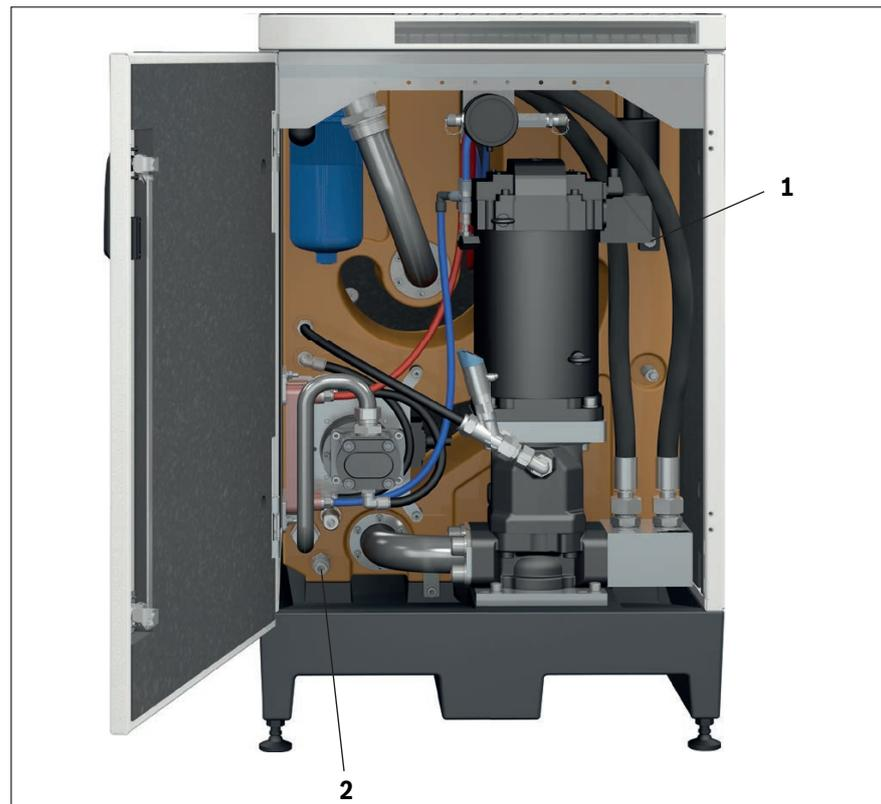

Fig. 21: Filling options
The optional tank volume of the CytroBox is 100 to 130 liters and can be checked via the oil level indicator, see Fig. 21, pos. 1.
- ▶ Open the front door at the bottom and connect a filling unit to the quick-release coupling type CEJN567-G1/2-020-105676200, see Fig. 21, pos. 2.